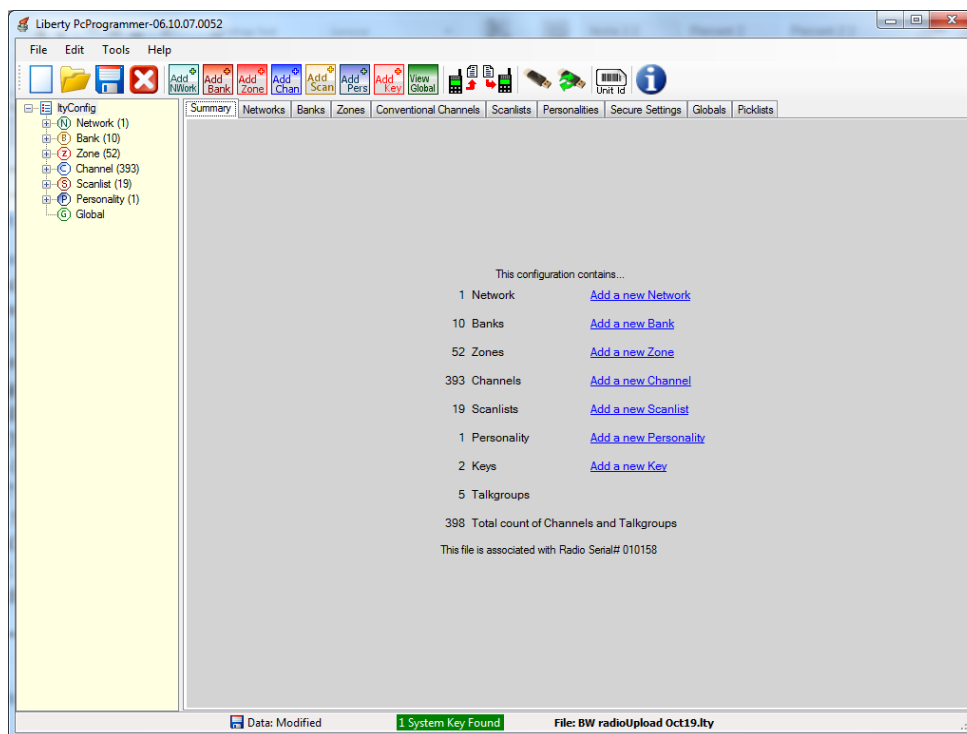

Figure 2-36 PCP Summary Page Showing New Configuration Contents
3. For a successful import, the SUMMARY page will appear giving the configuration file contents (refer to Figure 2-36).